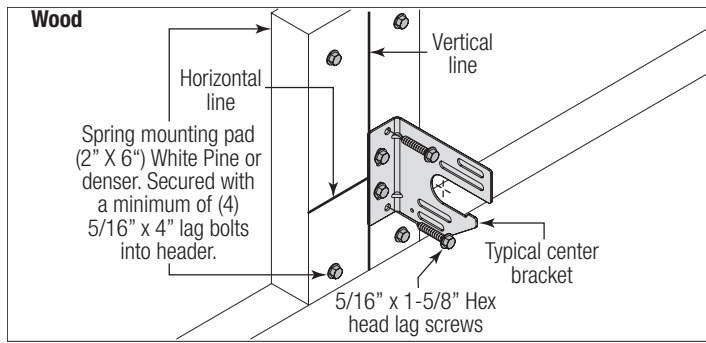
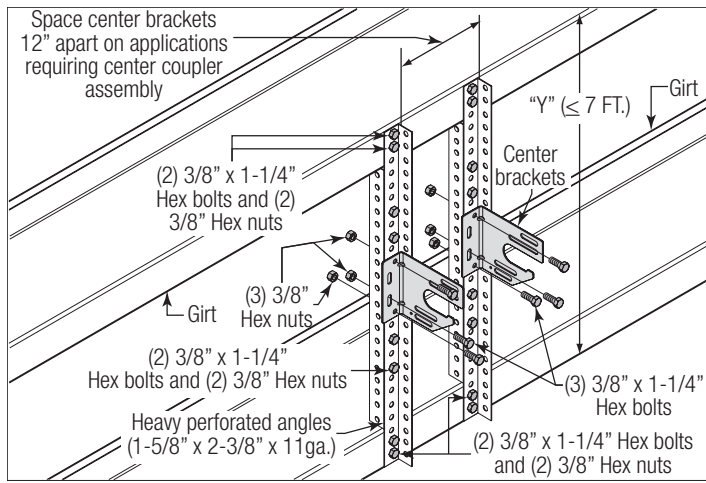

Figure 49
Figure 55
**NOTE:** If your door came with (4) springs or more springs, each of the outer springs mounting surface will need to be a minimum of 3" wide.
**See Figure 49 through Figure 55 for the following steps.**